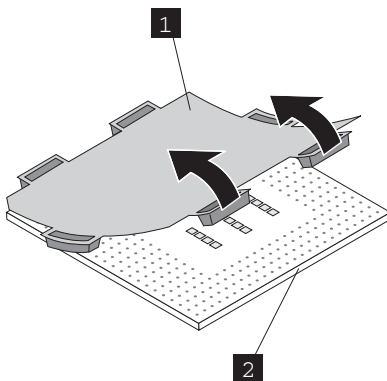

Figure 195. Removing the plastic protective cover from a microprocessor
- e. If a plastic protective cover is on the bottom of the microprocessor, carefully remove it, as shown in Figure 195.